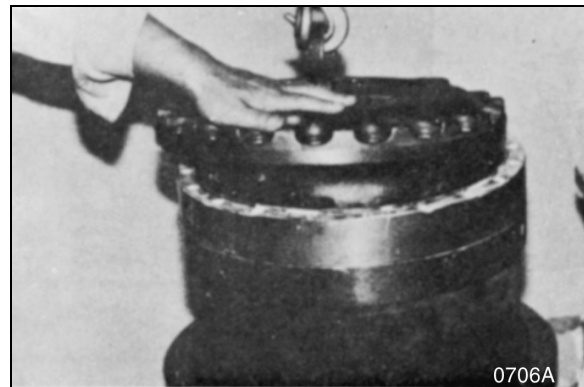

Figure 93
8. Bolt up the covering drive sprocket (13, Figure 13) to the carrier (3) and hub (1). Position the thrust bearing (2) between the carrier (3) and drive sprocket (13). Before final assembly clean the sprocket inner face and apply a thin bead of silicon to the inner face of the drive sprocket, to provide a weatherseal. Use Loctite formula 242 or 243 thread sealant, or another manufacturer's equivalent product, on fastener threads and install the washers (33, Figure 13) and retaining bolts (32) on the drive sprocket. Torque the twenty 12 mm x 1.75 x 85 retaining bolts to 10.4 kg•m (75 ft lb). See Figure 93.